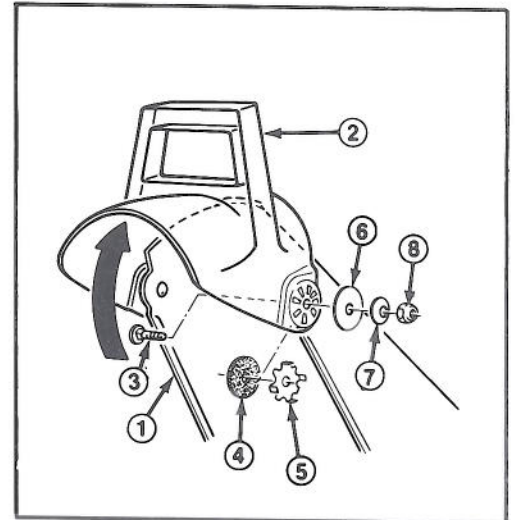

Figure 11
3. Secure left side of deflector to discharge chute, using fasteners previously removed. Make sure rubber washer and friction plate are positioned between chute and deflector and friction plate tabs fit into holes in deflector. See Figure 11 for proper installation sequence of parts.